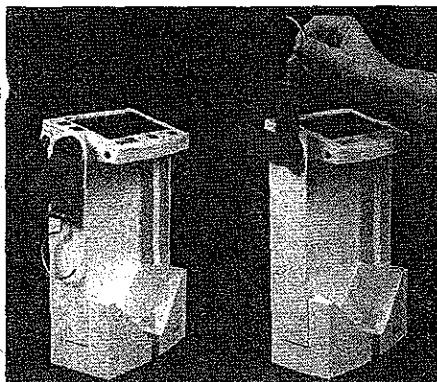

Figure 42
2. Turn the Monitor so that you are facing the front. Note the range of movement for each arm. The arm should rest as the left Monitor in Figure 42 indicates, and move freely to the position shown in the right Monitor in Figure 42. If the arm does not move freely, inspect the bearing to see if it is contaminated.
Note: Ensure that the hook is installed with the proper orientation. With the Monitor facing you and the arms hanging down, the hook(s)- openings should face towards the front of the Monitor (see left Monitor in Figure 42).